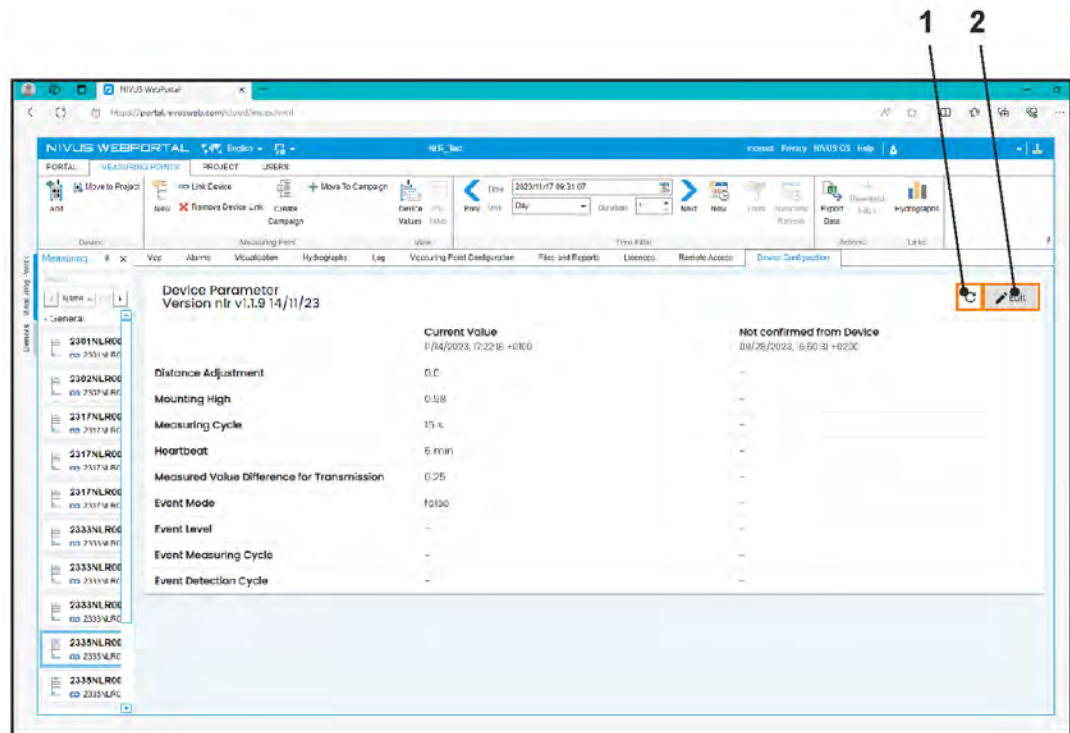

Fig. 30-1 Parameter display of the sensor in the NIVUS WebPortal
1. Click the editing symbol (Fig. 30-1 Pos. 2).
Clicking on the "Refresh" icon  (Fig. 30-1 Pos. 1) updates the display in the "Device Configuration" area/tab.